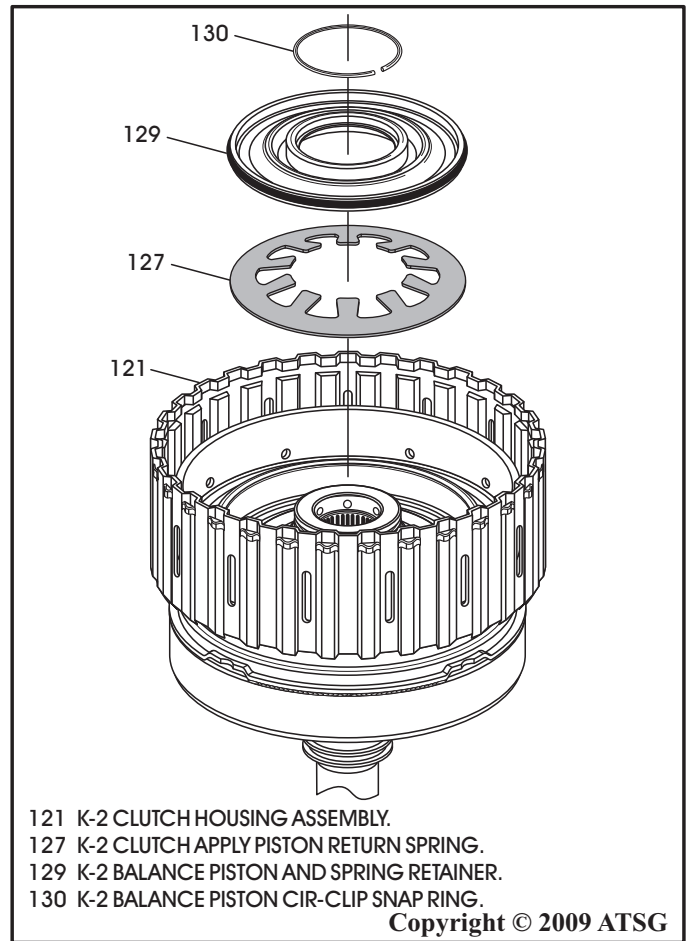

Figure 106
13. Install K-2 clutch apply piston return spring on the K-2 apply piston in the direction shown in Figure 106.
14. Install the K-2 balance piston, as shown in Figure 106.
15. Compress the assembly on a foot press, install the circlip snap ring, as shown in Figure 106 and ensure it is fully seated.